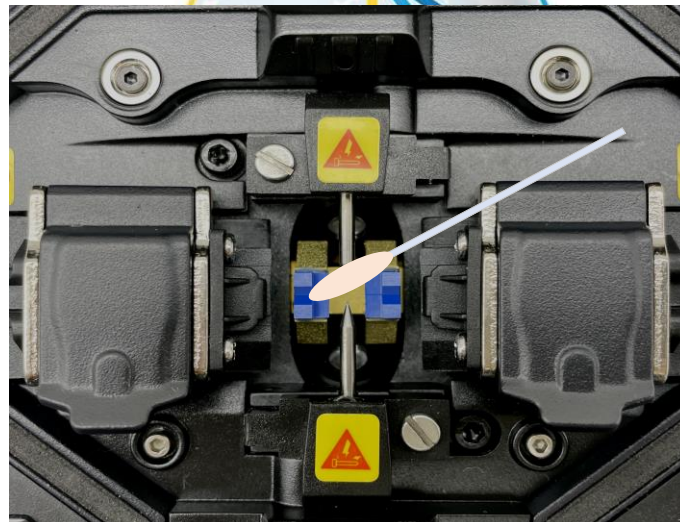

Figure 5.2 Clean the surface of the groove
- (2) Use a cotton swab soaked in alcohol to clean the upper surface and bottom of the V-shaped groove, and finally wipe the alcohol in the V-shaped groove with a dry cotton swab as shown in Figure 5.2. Be careful not to leave lint.